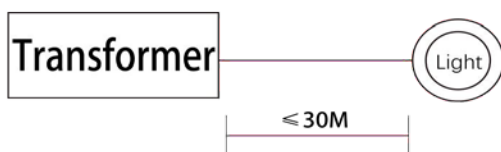

Figure 2
5. The distance between the light and the transformer must not exceed 30m (See Figure 2), the cables connecting must be at least 6mm², otherwise the light would not function properly.